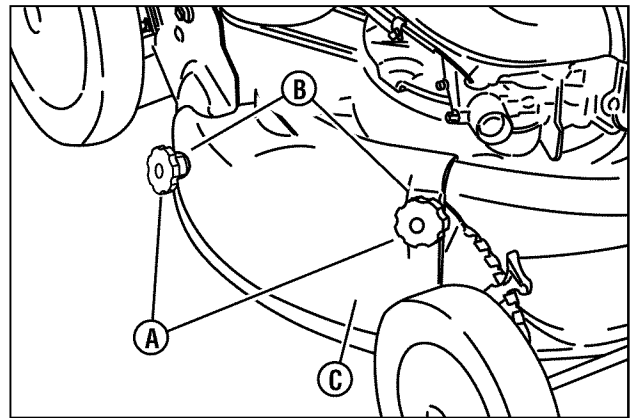

Figure 10: Removing the recycling cover
1. Remove the knob nuts (**A**, **Figure 10**) and internal/external tooth lock washers (**B**) securing the recycling cover (**C**) to the mower deck.